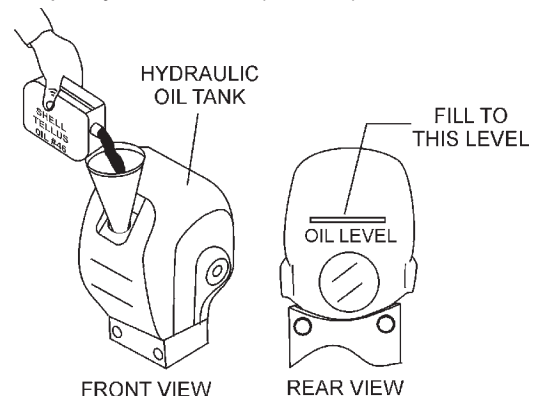

Figure 31. Hydraulic Oil Maintenance
2. Using a funnel, add **ShellTellus Oil #46** or equivalent to the hydraulic oil tank through the oil filler port (Figure 31). Oil tank capacity is 50.7 fl. oz (1500 cc)